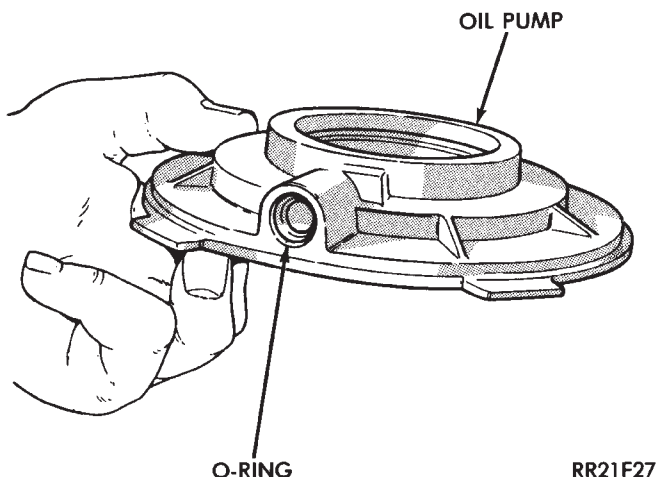

Fig. 12 Pickup Tube O-Ring Location
(9) Remove pickup tube O-ring from pump (Fig. 12) but do not disassemble pump; it is not a repairable part.
(10) Remove seal from oil pump with pry tool.